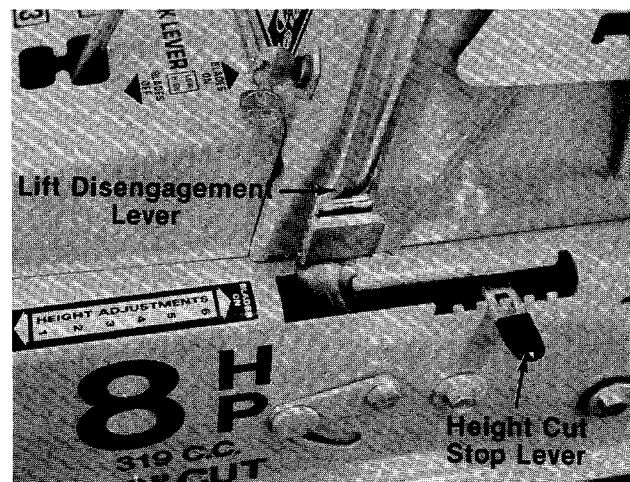
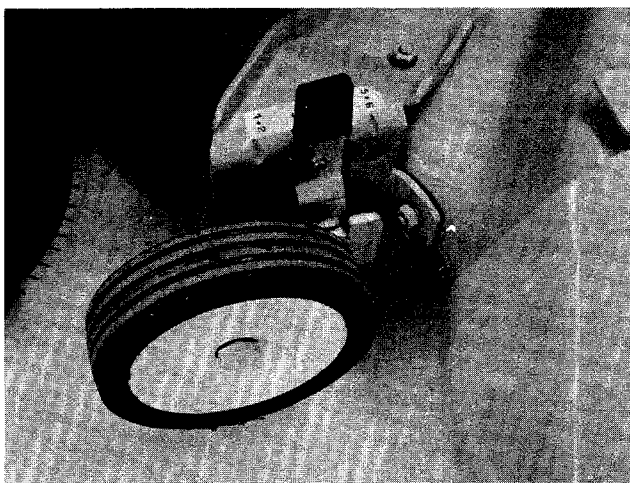

FIGURE 22.
FIGURE 23.
The lift and disengagement lever **must** be in the disengaged position when starting the engine and when shifting into reverse. See figure 22.
**Height of Cut Stop.** See figure 22. Lift the stop and set it at the desired cutting height. Allow the lift and disengagement lever to come forward to rest against the height of cut stop.
**Wheel Height Adjuster.** Move the lever towards the wheel and set it in the desired cutting height position. See figure 23. Both wheels must be in the same relative position.
Set the wheel height adjusters in the desired cutting height as indicated in figure 23. Set height of cut stop in the lowest position. See figure 22.
5. Move the lift and disengagement lever backward to the disengaged position and lock it. See figure 22.